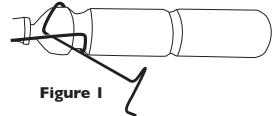

Figure 1
- Insert the battery into the front loop of the battery wire connector while leaving the end loop hanging outside (i.e. let the front loop open to allow battery to pass through), (Figure 1)
- Untie the end loop of the battery wire connector to allow the first loop to open as figure 1 above.